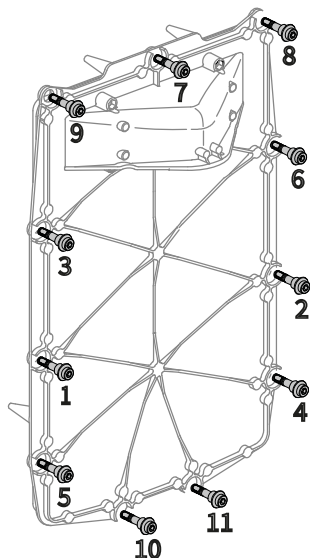

Figure 54: Tighten Allen bolts in cross pattern direction.
2. Place the heat exchanger cover onto the heat exchanger and loosely install the 6mm Allen bolts removed in step 6. Tighten the 6mm Allen bolts in a cross pattern as shown in the Figure 54.